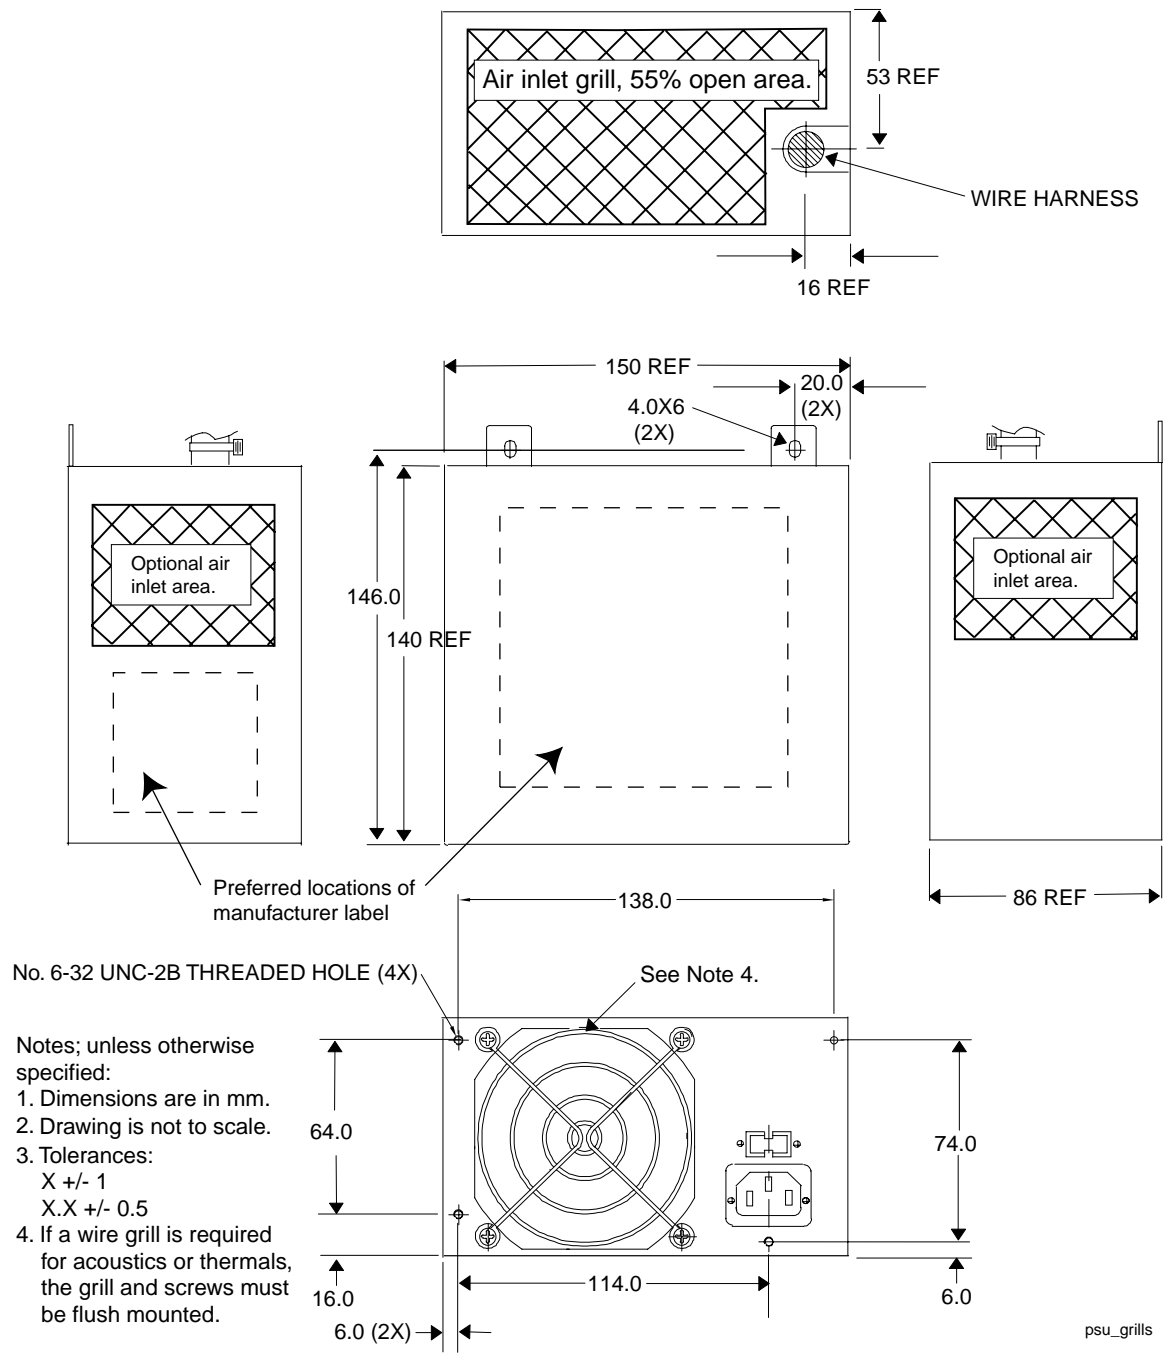

Figure 4. Power Supply Dimensions for Chassis in Which the P/S Does Not Cool Processor
The supply shall be enclosed and meet the physical outline shown in either Figure 4 or 5, as applicable.
- The venting shown in Figure 4 provides the most effective channeled airflow for the power supply itself, with little regard for directly cooling any system components. This venting method is nearly always used in conjunction with a fan that exhausts out the rear of the power supply.